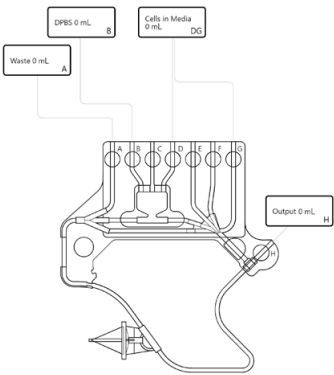

Figure 1. CTS Rotea Single-Use Kit configuration for washing and concentrating T cells.
Human T cells were initially isolated from peripheral blood mononuclear cells (PBMCs) stored in a leukopak using the CTS Rotea system and the Gibco™ CTS™ Rotea™ Single-Use Kit (Figure 1). After thawing, the T cells were isolated and expanded with Gibco™ CTS™ Dynabeads™ CD3/CD28 beads in T cell complete medium: Gibco™ CTS™ OpTmizer™ T Cell Expansion serum-free medium (SFM) supplemented with Gibco™ CTS™ Immune Cell serum replacement (SR), Gibco™ L-Glutamine, Gibco™ GlutaMAX™ Supplement, and interleukin 2 (IL-2). Following expansion, the T cells were washed and concentrated on the CTS Rotea system using Gibco™ CTS™ DPBS either alone or CTS DPBS supplemented with 2% human serum albumin (HSA) as a wash buffer. T cell recovery and viability were analyzed using a ChemoMetec™ NucleoCounter™ NC-200™ automated cell counter before and after processing. The parameters of the washing and concentration protocol for the CTS Rotea system are summarized in Table 1.
As the cells were being washed, the output was sampled through a tube leading to the waste bag using a syringe attached to a Y tubing connector (Figure 1). The residual glucose concentration was measured on a Nova BioProfile™ Flex2 cell culture analyzer. The residual IL-2 and human serum albumin (HSA) concentrations were determined using the Invitrogen™ IL-2 Human ELISA Kit, High Sensitivity (Cat. No. BMS221HS) and the Invitrogen™ Albumin Human ELISA Kit (Cat. No. EHALBX5). The concentration of residual DMSO in the output was measured via gas chromatography (GC). The residual components, concentrations of residual components, wash buffers, and initial T cell quantities are listed in Table 2.